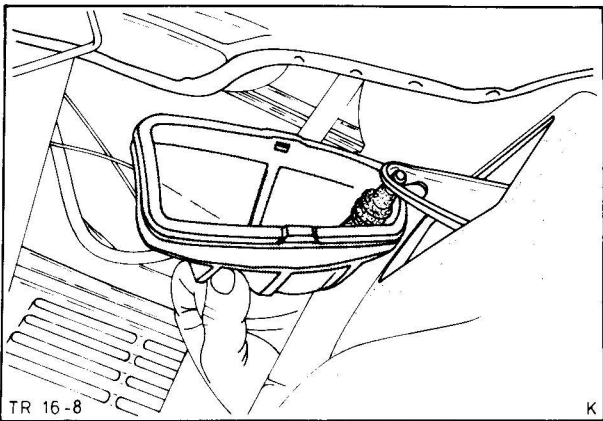

Fig. 142. Disconnect clutch cable from release lever
4. Pull out rubber gaiter on clutch release lever, disconnect cable from lever, Fig. 142. Detach gaiter. Press rubber cable seal out of bulkhead panel and remove clutch cable complete.